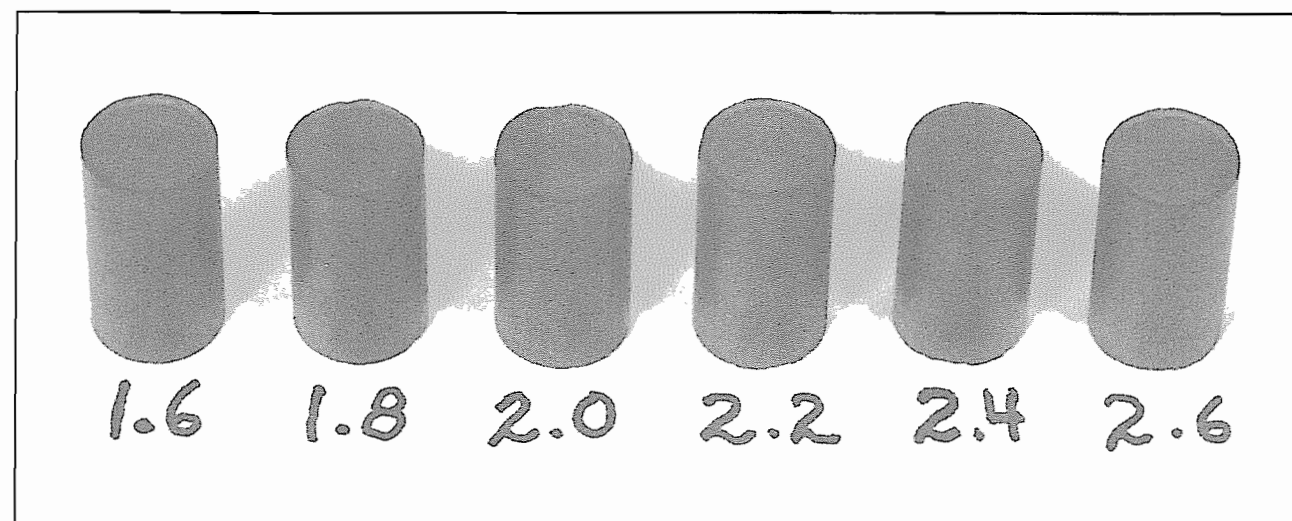

Figure 9-20. Six finished test pellets made with (from left to right) 1.6, 1.8, 2.0, 2.2, 2.4, and 2.6 cc. of acetone.
5. Repeat steps 1 through 4 five more times, and increase the amount of acetone each time by 0.2 cc. When you're finished, you'll have a row of six test pellets made with acetone in the amounts of 1.6, 1.8, 2.0, 2.2, 2.4, and 2.6 cc's (Figure 9-20).